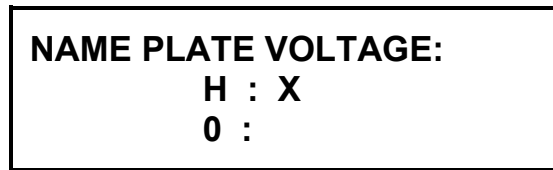

Figure 18.0 Name Plate Voltage Status Display
- a. **Description:** This menu provides access to the “Name Plate Voltage” status display (Figure 18.0) for entry of the transformer nameplate voltages which are used to derive a calculated turns-ratio. The calculated turns-ratio is then used to compare the measured turns-ratio and calculate a percentage error reading.
- c. **Action Options:** Press key number 1 (“YES”) push down the Control Knob to use the calculated turns-ratio in the test results and advance to the “Name Plate Voltage” status display (Figure 18.0). Press key number 2 to bypass this option and advance to the “Start/Stop Test” status display (Figure 22.0). Selection may also be made by turning the Control Knob to select a menu option, then pushing down on the Control Knob once the selection is made.